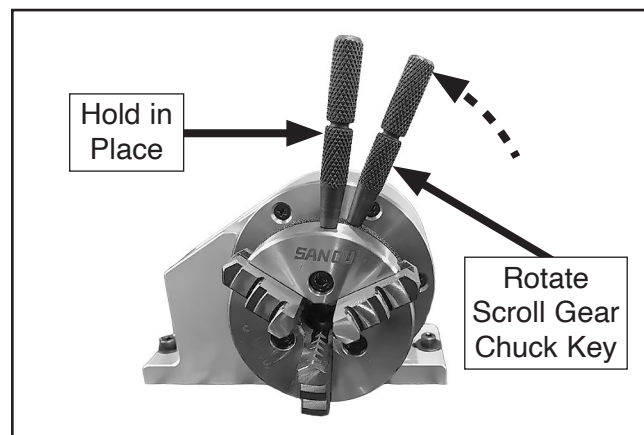

Figure 18. Rotating scroll gear to open jaws.
3. Hold chuck recess key in place and rotate scroll gear chuck key to open 3-jaw chuck and remove jaws (see **Figure 18**).